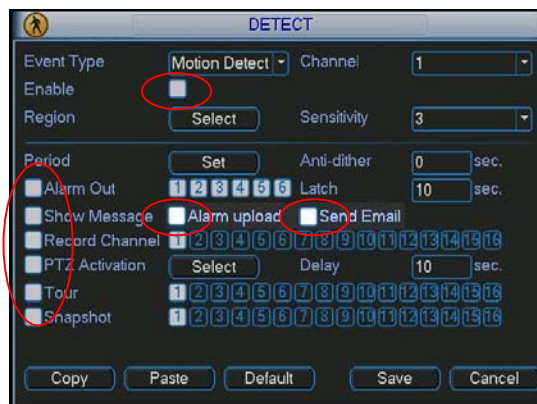
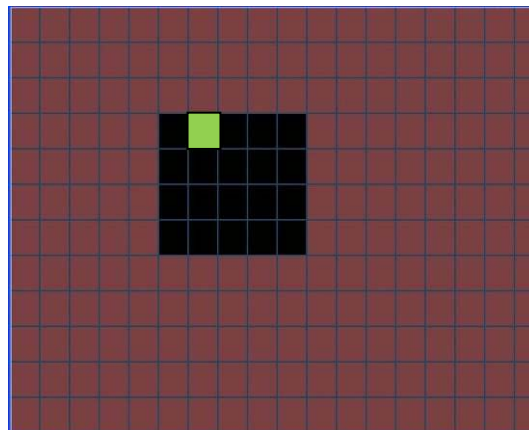
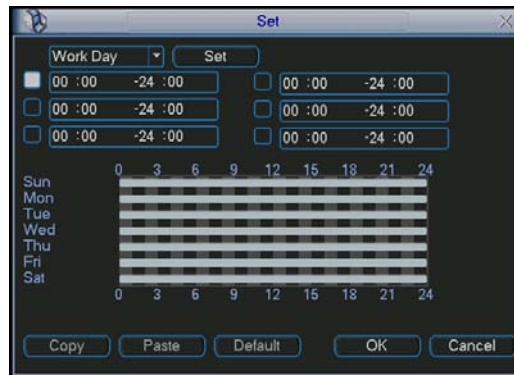
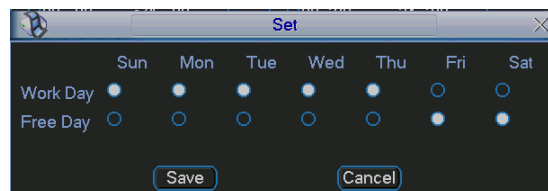

Figure 4-20
Figure 4-21
Figure 4-23
Figure 4-24
In the main menu, click Setting, then Detect to obtain the motion detection interface illustrated in Figure 4-20. The three detection modes available are motion detection, video loss and camera masking.
Detection menu is illustrated below in Figure 4-20:
- Region: Click select button in the "Region" portion of the Detect menu illustrated in Figure 4-20. Here you can set the motion detection zone. As illustrated in Figure 4-21 below, there are 396 (22*18 PAL) /330 (22*15 NTSC) small zones. The green square is current cursor position. The Red zone is the motion detection zone. Black zone is the disarmed zone. You can click the Fn button on the remote to switch between the arm mode and disarm mode. In arm mode, you can click the direction buttons to move the green rectangle to set the motion detection zone. After you completed the setup, please click ENTER button to exit current setup. Click save button to save current setup. If you click ESC button to exit the region setup interface the system will not save your zone setup.
NOTICE: as shown in Figure 4-21, you can left click the mouse and then drag it to set a region for motion detection. Click Fn to switch between arm/withdraw motion detection. After setting, click enter button to exit.
- **Period:** Click set button (Figure 4-20), you can see the interface shown in Figure 4-23. Here you can set for business day and non-business day as illustrated in Figure 4-24. Click set button to generate the interface shown in Figure 4-24. Here you can set your own setup for business day and non-business day.